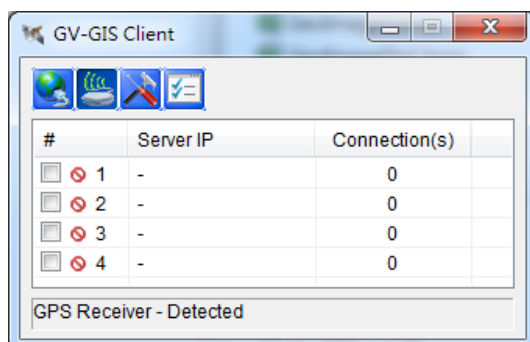

Figure 4-5
- A. Make sure you enable the GPS Receiver on the GV-GIS Client (see *Figure 4-5*). The **Service** button  is selected.